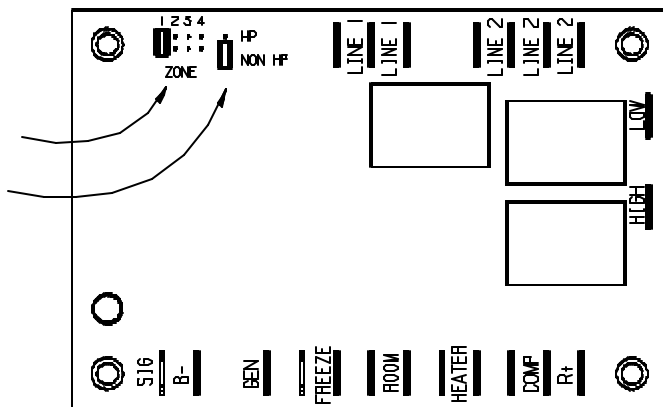

FIGURE 3
2. Set the "zone" jumper to the proper zone position for the particular position the air conditioner or heat pump will be in the coach (**Refer to Figure 3 - Zone 1 is shown**). Zones should be numbered from the front of the back of the coach with Zone 1 in front.
3. Set the "HP"/"NON HP" jumper to "HP" if the unit is a heat pump or to "NON HP" if the unit is not a heat pump (**Refer to Figure 3 - Non HP is shown**).